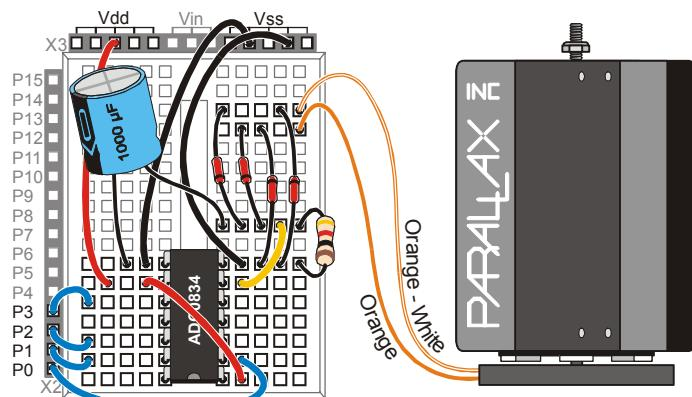

Figure 5-27: Full Wave Rectifier with Smoothing Capacitor Wiring Diagram
- ✓ Replace the $1000\ \mu\text{F}$ capacitor as shown in Figure 5-27. Remember the capacitor is polarized so take care to add the capacitor with its + and - leads correctly as illustrated.